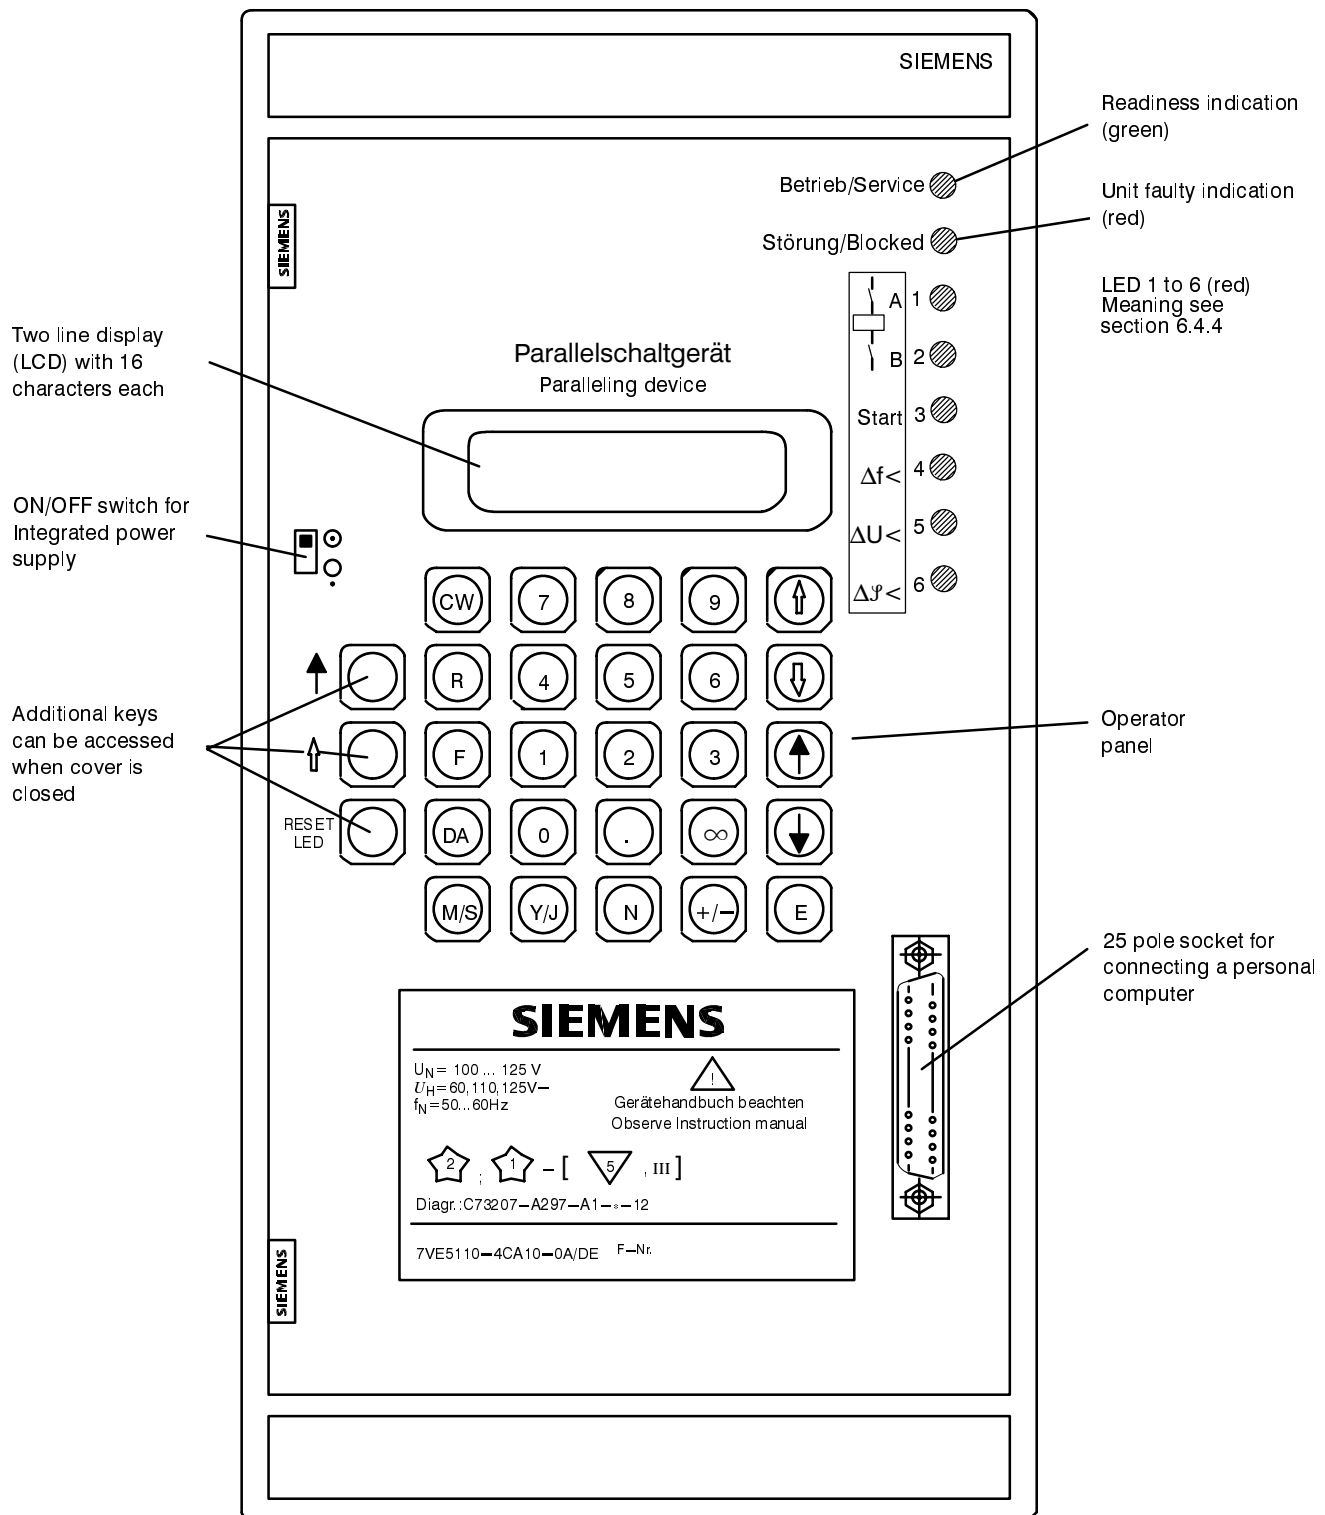
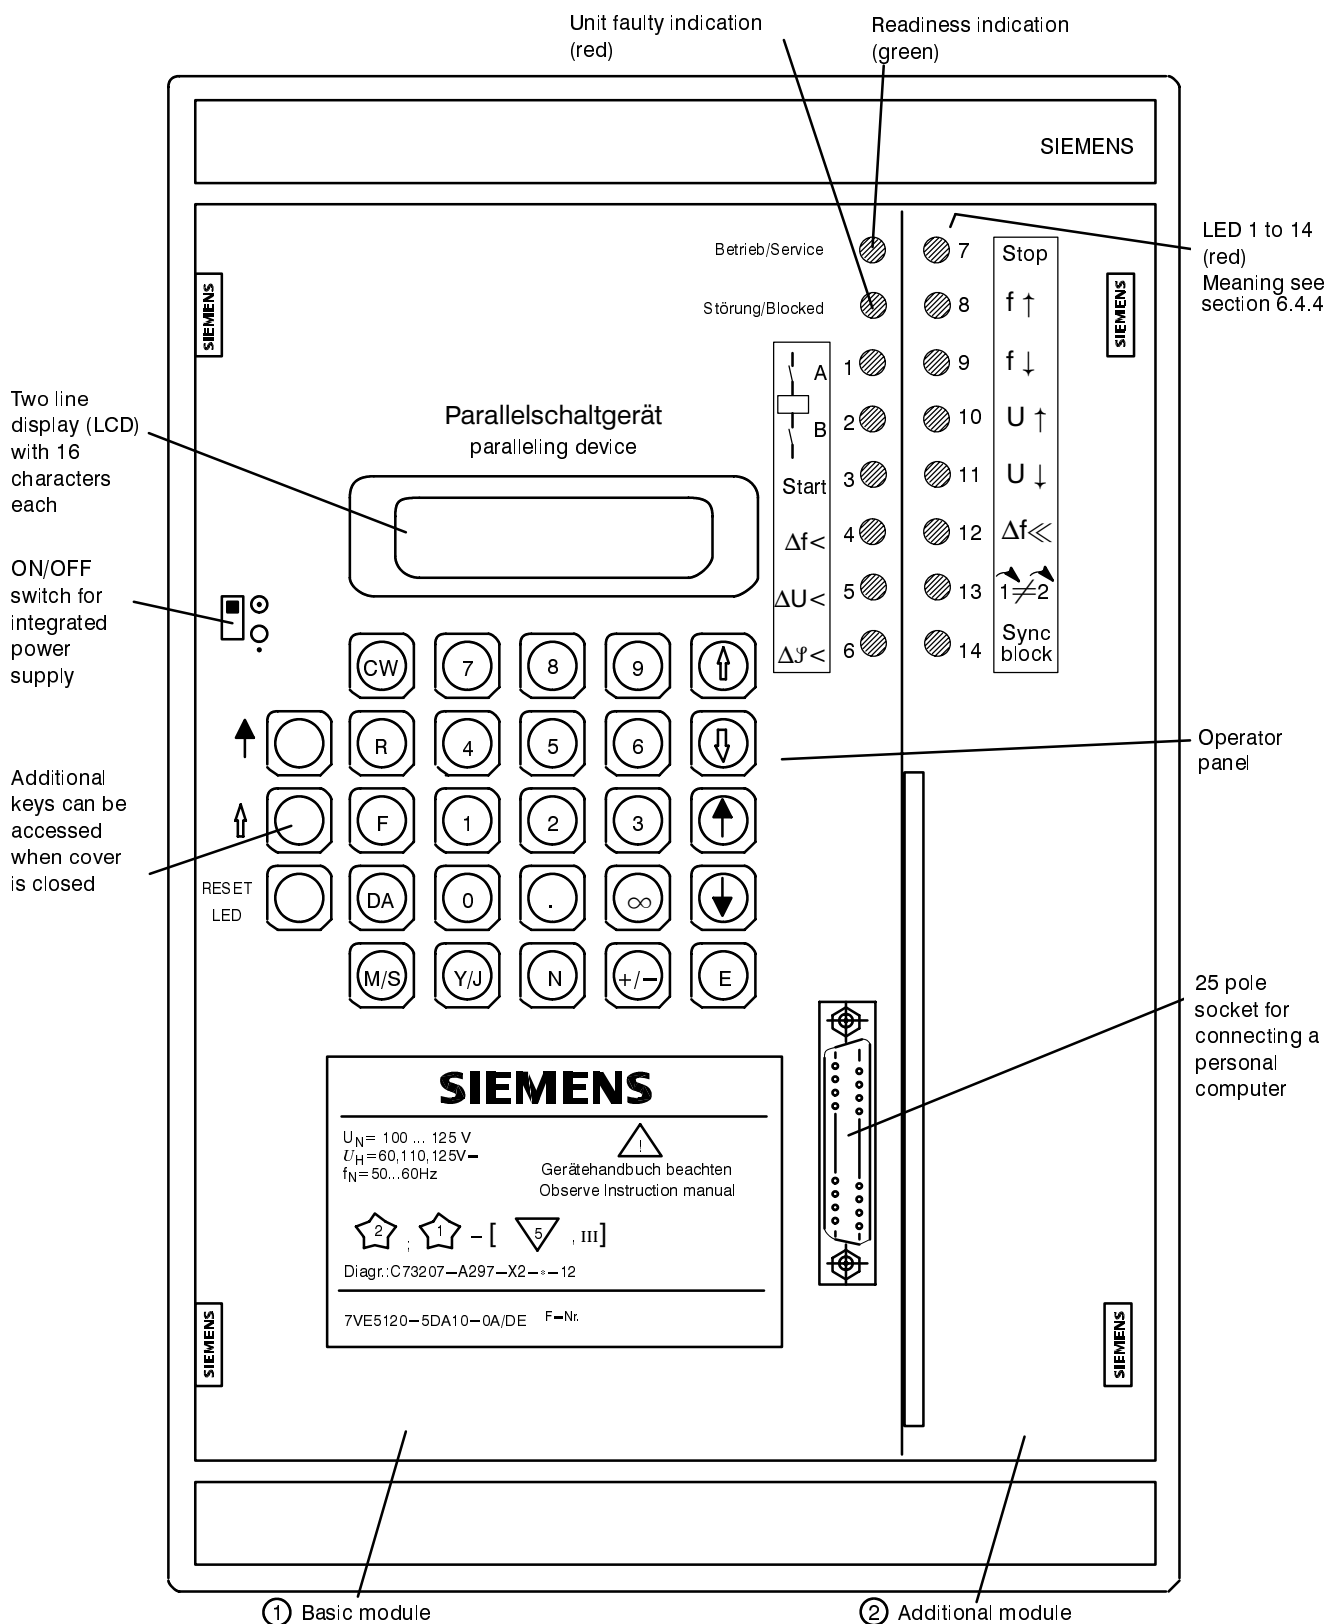

Figure 6.1 Front view 7VE511
Figure 6.2 Front view 7VE512
- Ensure that the miniature slide switch on the front plate is in the "OFF"  position. (refer Figure 6.1 or 6.2).
The membrane keyboard and display panel is externally arranged similar to a pocket calculator. Figure 6.1 or figure 6.2 illustrates the front view.